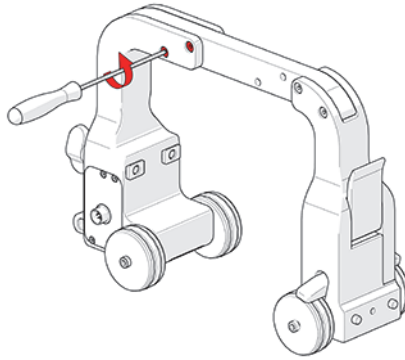

Figure 3-5 Tighten shoulder screws
3. Tighten the two shoulder screws with the supplied 2 mm hex driver (see Figure 3-5 on page 43).